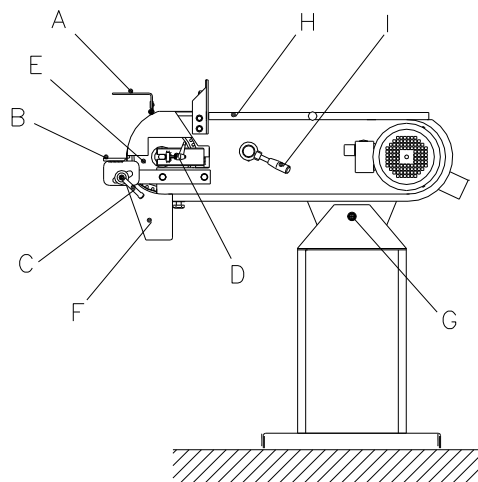

Fig.: 1.1
Eye shields, suction hose and perhaps dust bag must be mounted before use. The clamps for mounting the suction hose are placed in the dust bag. The eye shields (A) must be mounted into the eye shield fitting (see *fig. 1.1*).
When changing the belt it is released by turning the handle (I) in anti-clock-wise direction (see *fig. 1.1*), the cover (J) is opened and the worn-down belt (K) is removed by driving the belt against the direction of rotation, and the belt is removed from the machine by the drive wheel. The new belt is fitted. It must be checked that the direction of the arrows on the back side of the belt correspond to the direction of rotation. The handle (I) is turned clockwise until grinding belt is tightened. Check for alignment by turning the grinding belt by hand and adjust with handle (D)